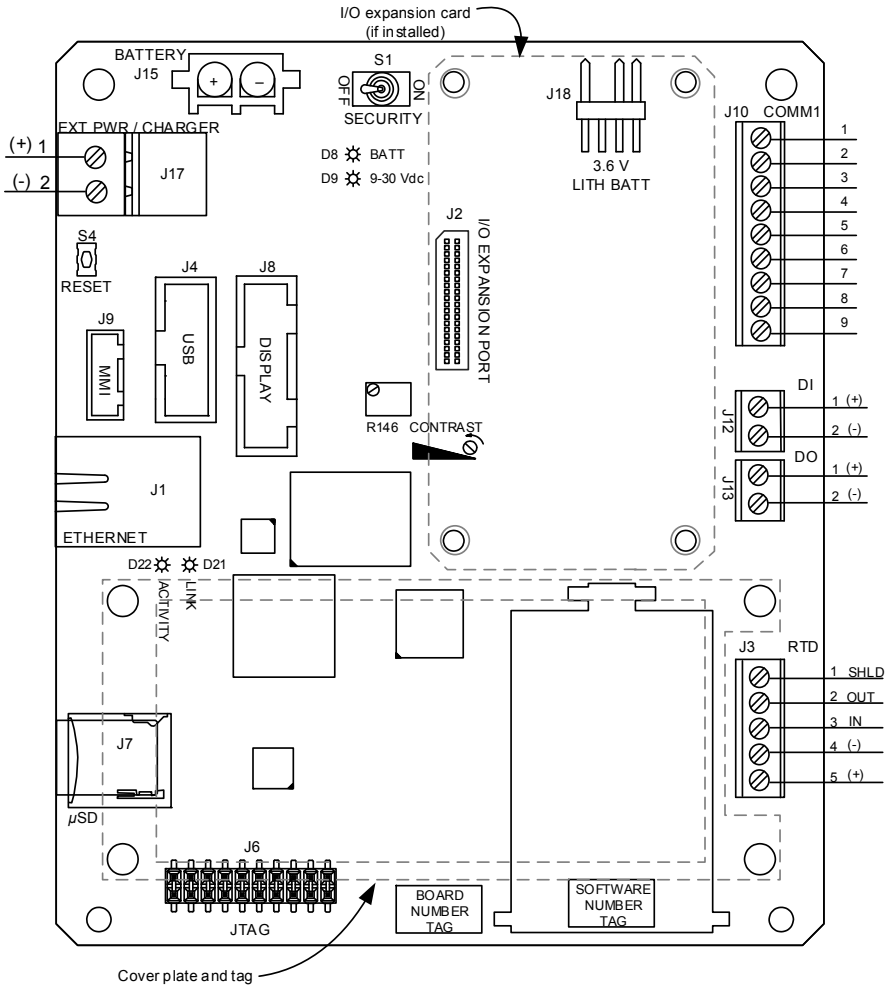

Figure 3: μ FLO^{G5} main electronic board
6. Reinstall field wiring and cable connections to the new μ FLO^{G5} main electronic board. Use Figure 3 for component and terminal locations and the information in Table 2 to determine if the connector requires rewiring to a new terminal.